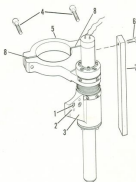

Figure 10. Removing Ball Screw Feedback
1. Remove the handwheel (1) (see par. 25).
2. Take out the roll pin (4) and remove the dial clutch (2). Remove the dial (5) by loosening the thumb screw (3). Take out the three capscrows (8) and remove the drive housing cover (9). Remove the three capscrows (11) holding the drive pulley (13) and remove the drive pulley. Take out the four capscrows (14) and remove the clamping ring (15). Remove dowel (17) and hub (16). Remove the anvil capscrows (19).
3. Remove the two capscrows (16) and take off the transverse drive housing (18) with motor attached. Remove nut (21).
4. Remove four capscrows (24) and remove the transverse screw bearing bracket (23) with the bearings (21 & 22). Press the bearings out the front end of the bearing bracket.
32. REMOVING BALLSCREW FEEDBACK (2+1) (Figure 10)